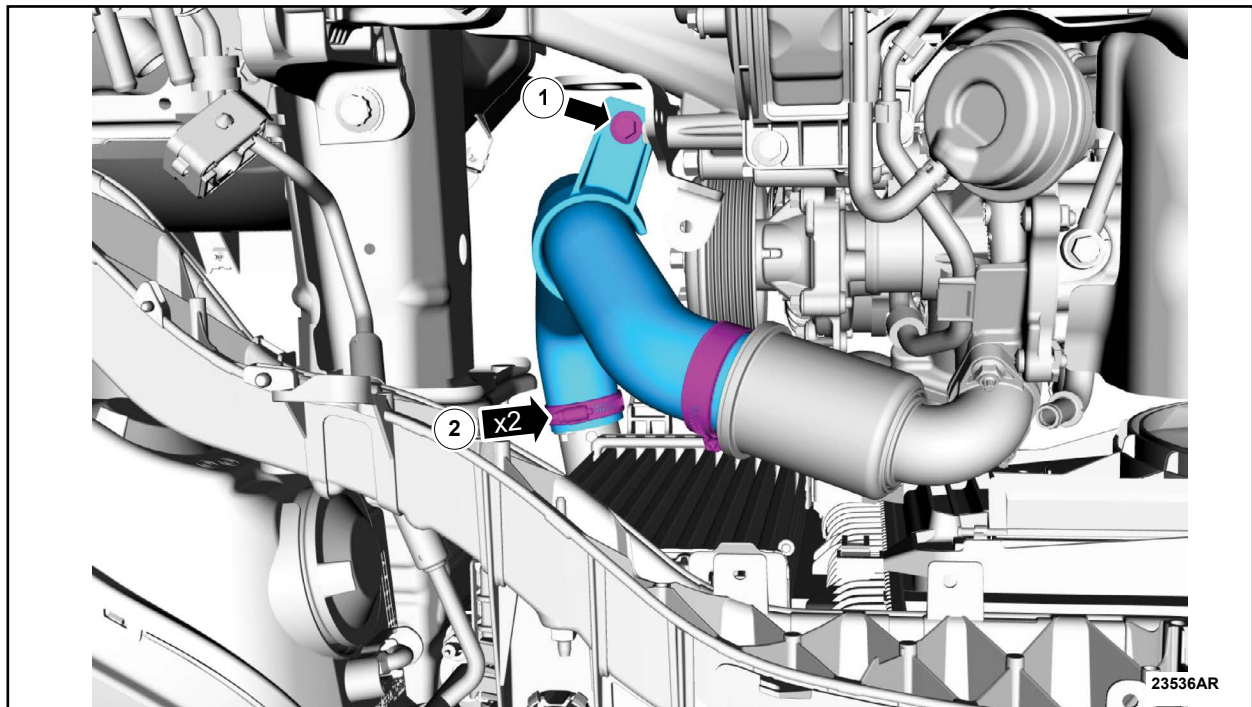

FIGURE 48
56. Install the CAC inlet pipe and the bolt. See Figure 48.
57. Tighten the clamps. See Figure 48.